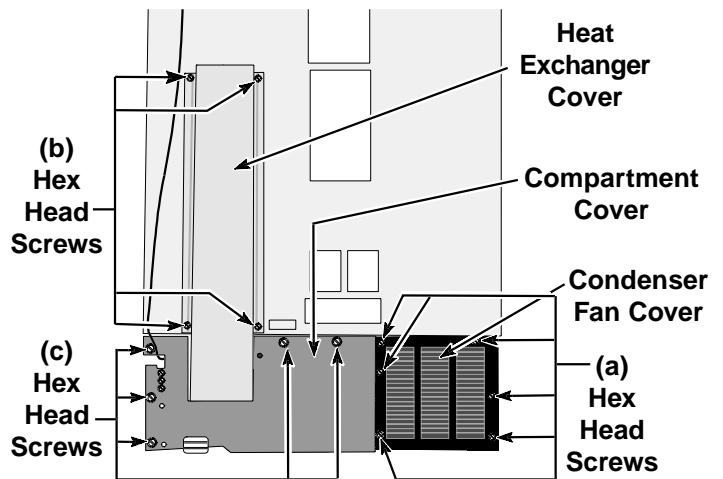

Fig. 7
1. Remove the six (6) hex-head screws securing the condenser fan cover to the cabinet. (Fig. 7-a)
2. Remove the four (4) screws securing the heat exchanger cover to the back of the unit. (Fig. 7-b)
3. Remove the five (5) screws securing the component compartment cover to the cabinet. (Fig. 7-c)